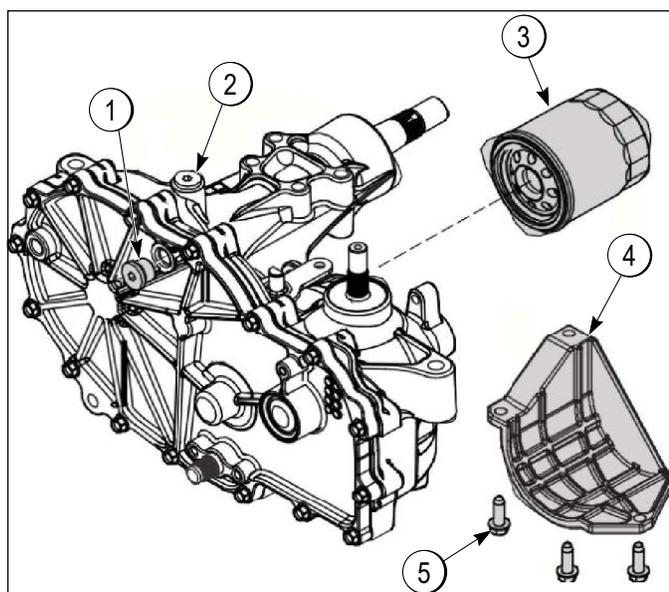
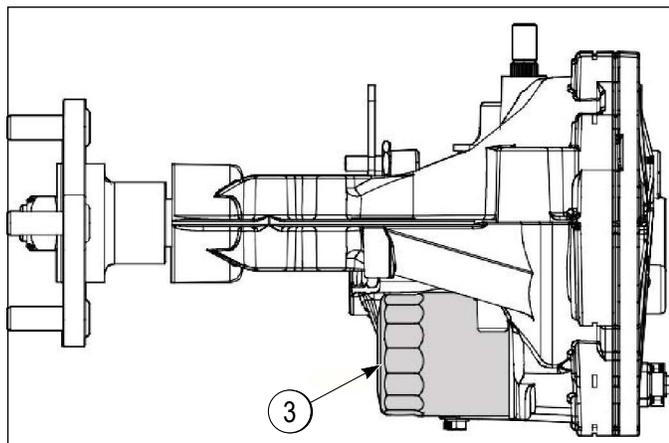

Figure 6-1
Figure 6-2
2. Remove the three 1/4 in filter guard screws (5) and filter guard (4). Clean any loose debris from around the perimeter of the filter. See Figure 6-1 and Figure 6-2.
3. Place an oil drain pan beneath the oil filter (3). Remove the oil filter (3) from the transaxle.
6. Install the filter guard (4) with three 1/4 in screws (5). Tighten screws to 65 in-lb (7.3 N•m) each.
9. Remove the top port plug (1) from the left side and right side transaxles prior to filling with oil. This will allow the transaxles to vent during oil fill.
**NOTE:** *For units that do not have an external expansion tank, remove the fill port plug (2) on the top of the housing. See Figure 6-1.*
11. Fill with 20W-50 motor oil until oil just appears at the bottom of each transaxle top port (1) (approximately 2 qt per transaxle, 4 qt total). Install the top port plug (1) into each transaxle as the oil level reaches this port. Install and tighten the top port plugs to 120 in-lb (20.3 N•m).
**NOTE:** *For units that do not have an external expansion tank, replace the fill port plug (2) on the top of the housing (see Figure 6-1), tighten to 120 in-lb (20.3 N•m), and proceed to the purge procedure.*